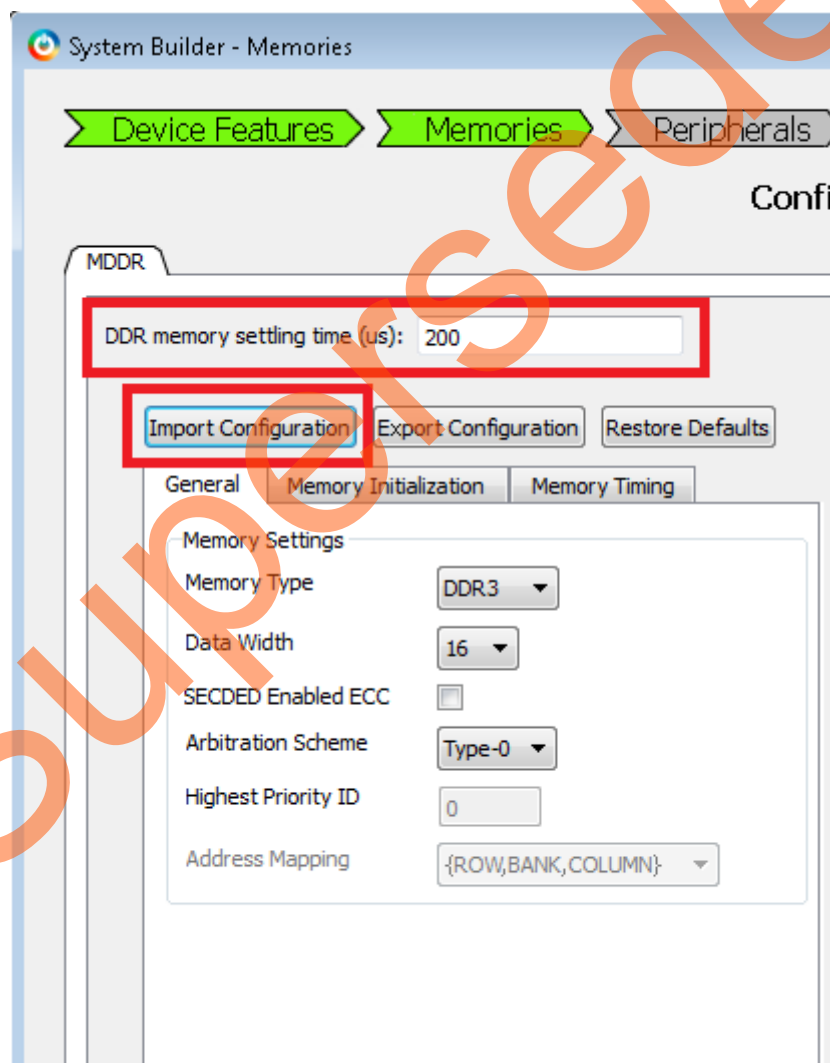

Figure 5. System Builder Configurator – Memory Page
8. Click **Next**, the System Builder – **Memory** page is displayed, as shown in Figure 5. You will be using the DDR3 external memory models for the purpose of this tutorial. Set the memory setting time to 200 us.
- Click **Import Configuration**, as shown in Figure 5.